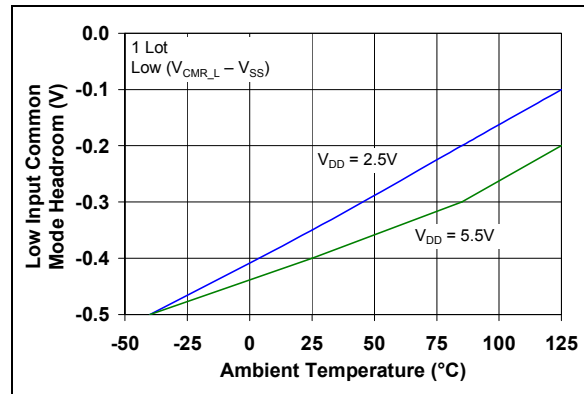

FIGURE 2-5: Low Input Common Mode Voltage Headroom vs. Ambient Temperature.
**Note 1:** See Figure 2-5 for temperature effects.